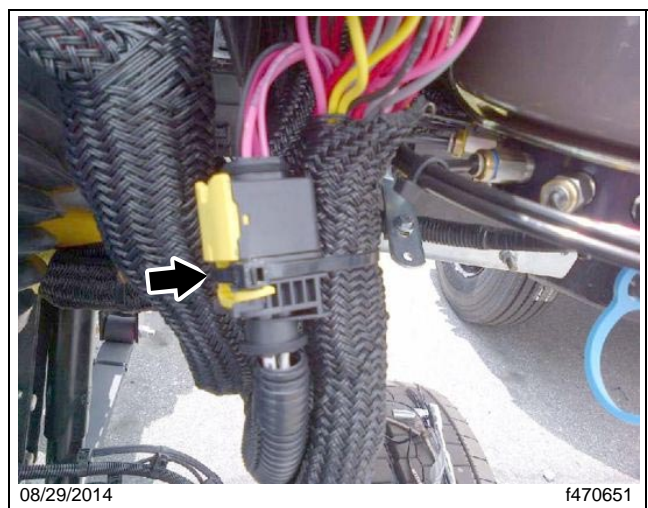

Fig. 12, Attaching the Connector
5. Using the slot in the connector, attach the connector to the bundle as shown in **Fig. 12**
5. Using the slot in the connector, attach the connector to the bundle as shown in **Fig. 12** on page 7.